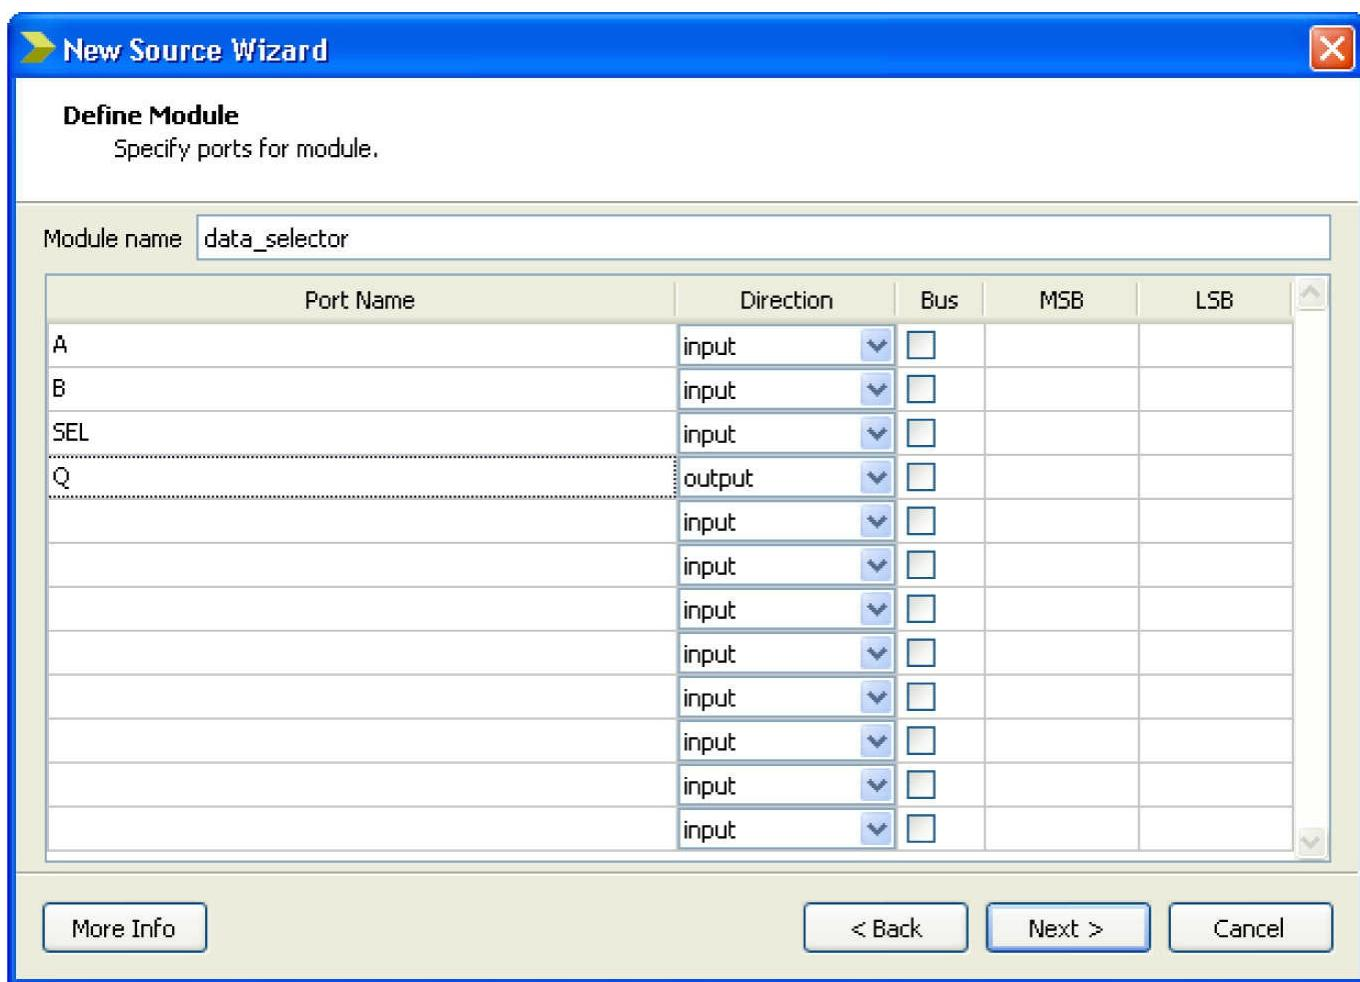
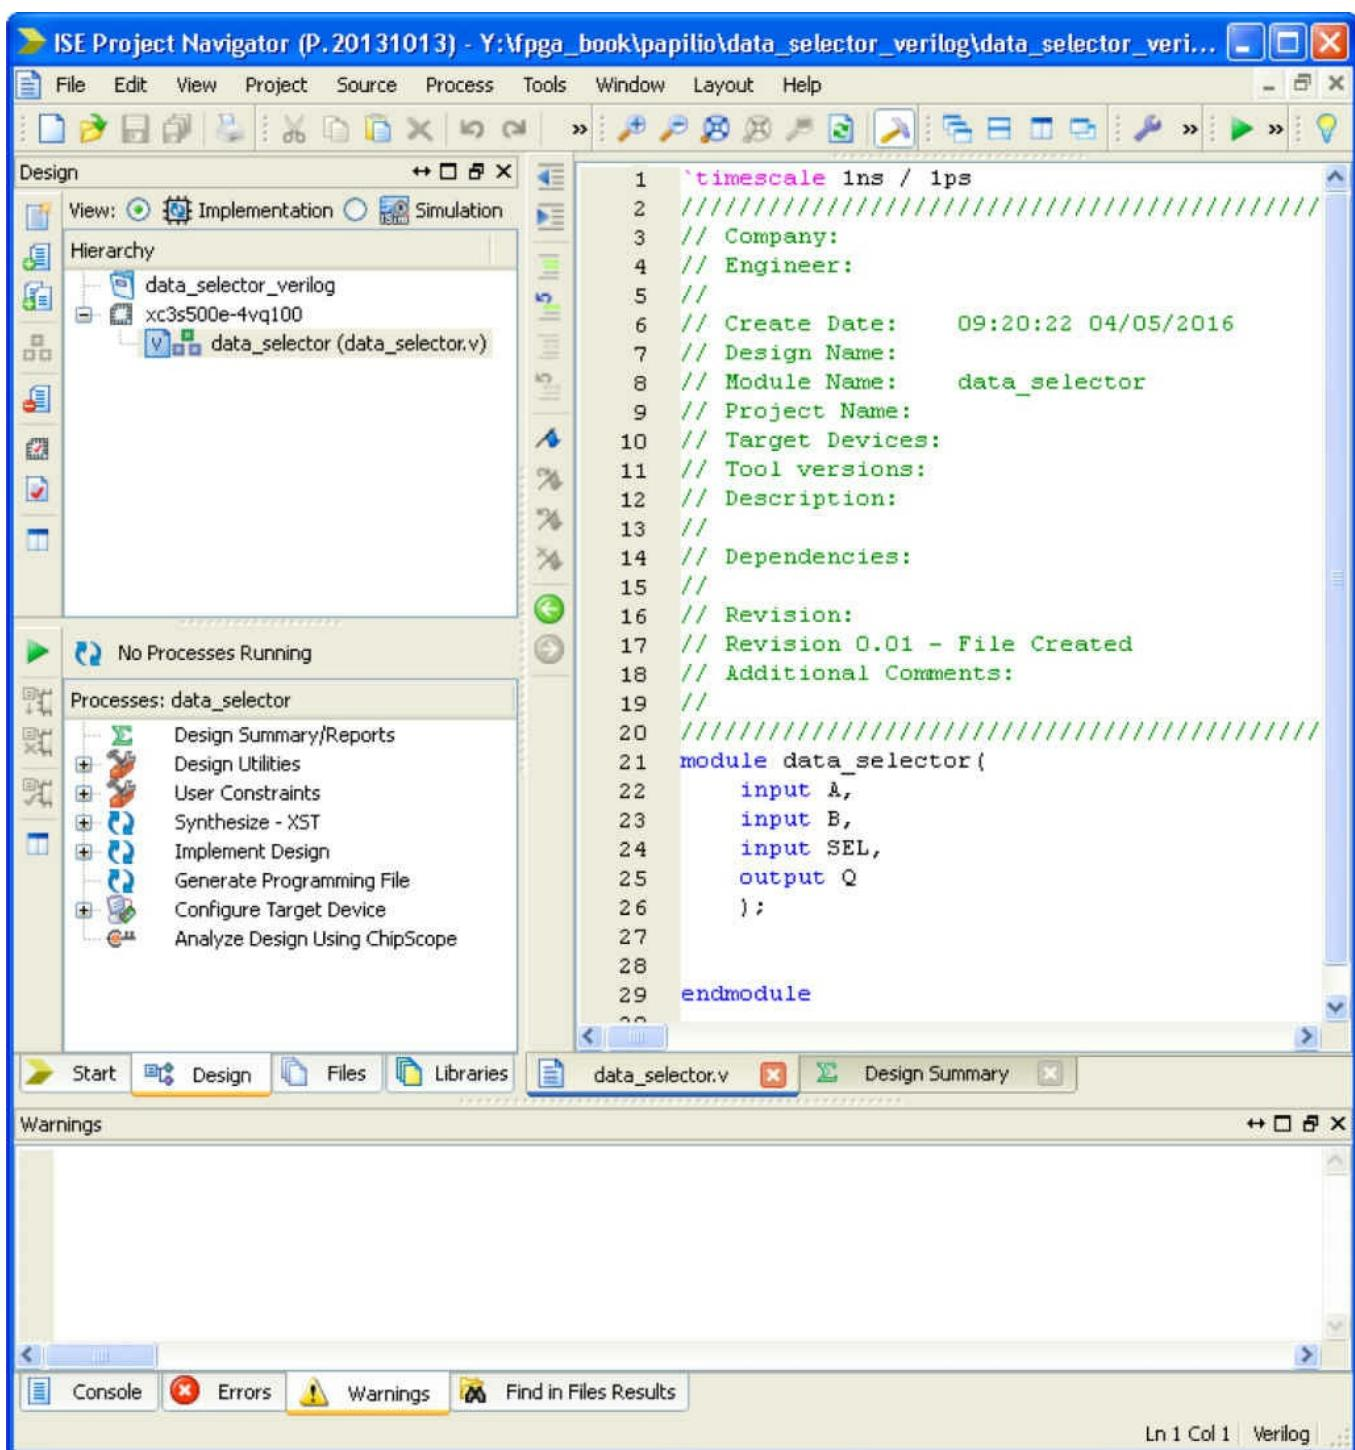

Figure 4-3 Defining inputs and outputs for the new Verilog source.
Figure 4-4 The generated module code.
Select a source type of Verilog module and give the source the name “data_selector,” as you did with the schematic design; then set the directory to be “src.” When you click “Next,” you will be prompted to define the inputs and outputs to the module (Figure 4-3). This step generates some code for the Verilog module to get you started. If you prefer, you can just click “Next” without adding any inputs or outputs and type in the Verilog text directly. However, it does save a little typing, so for now, let’s use the Wizard.
Use the New Source Wizard window to define three inputs (A, B, and SEL) and one output (Q), as shown in Figure 4-3. Click “Next,” and then after the summary screen, click “Finish.” The Wizard will then generate a template file for your Verilog module using the information you entered (Figure 4-4). This file has the standard extension of .v for Verilog.